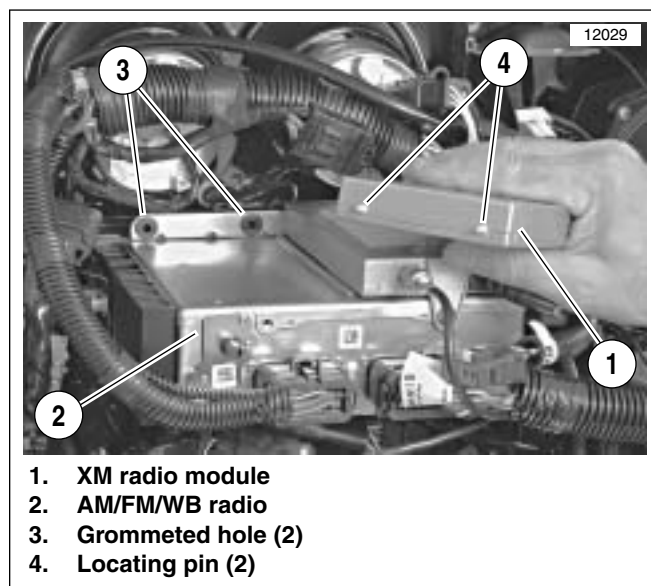

Figure 8-17. Installing XM Radio Module
1. See Figure 8-17. Slide XM radio module (1) in on top of AM/FM/WB radio (2) so that locating pins (4) engage grommets holes (3).